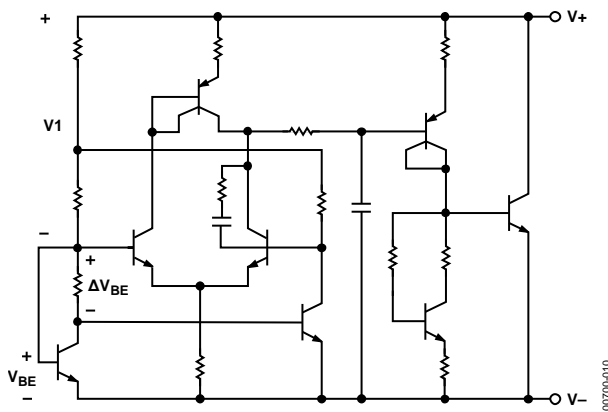

Figure 10. Schematic Diagram
The AD1580 uses the band gap concept to produce a stable, low temperature coefficient voltage reference suitable for high accuracy data acquisition components and systems. The device makes use of the underlying physical nature of a silicon transistor base emitter voltage in the forward biased operating region. All such transistors have an approximately $-2 \text{ mV}/^\circ\text{C}$ temperature coefficient (TC), which is unsuitable for use directly as a low TC reference; however, extrapolation of the temperature characteristic of any one of these devices to absolute zero (with collector current proportional to absolute temperature) reveals that its V_{BE} goes to approximately the silicon band gap voltage. Thus, if a voltage could be developed with an opposing temperature coefficient to sum with V_{BE} , a zero TC reference would result. The AD1580 circuit in Figure 10 provides such a compensating voltage, V_1 , by driving two transistors at different current densities and amplifying the resultant V_{BE} difference (ΔV_{BE} , which has a positive TC). The sum of V_{BE} and V_1 provides a stable voltage reference.